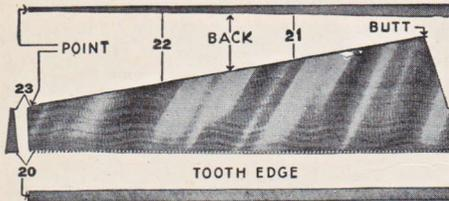

Fig. 63—Showing how ATKINS Hand Saws are Taper Ground. (Exaggerated for sake of clearness.) Figures are gauges—higher the figure, the thinner the saw
After tempering, the SILVER STEEL blades for ATKINS Hand Saws are cooled and then sent to the grinding room where they are two-way Taper Ground. The blade is so ground that it actually tapers (1) from tooth edge, the widest part, throughout the entire blade towards the back of saw which is the thinnest part; and (2) gradually tapers from the handle to point of the saw. See Fig. 63. The tooth edge is of uni-